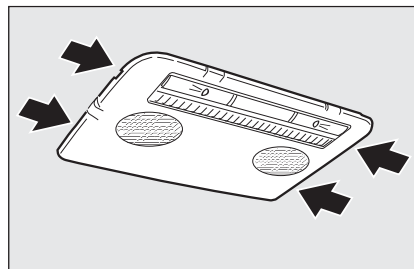

fig. 42
- remove the front ceiling light working in the points shown by the arrows (see **fig. 42**);